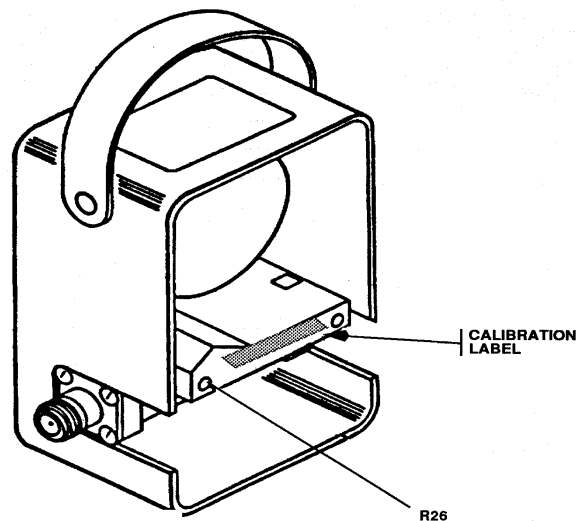

Figure 1. Calibration label and adjustment location.
- (3) Connect other end of BNC T connector to frequency counter.
- (4) Adjust audio analyzer frequency controls for a frequency counter indication 1000 Hz.
- (5) Disconnect frequency counter from BNC T connector.
- (6) Connect end of BNC T connector to multimeter (ac mode).
- (7) Set factor switch to 1.
- (8) Adjust audio analyzer amplitude output controls for a digital multimeter indication between 0.1591 V rms,  $\pm 0.00005$  V rms.
- (9) Locate access hole to R26 (fig. 1).
- (10) Pierce paper strip covering R26 (fig. 1) adjustment.
- (11) Adjust R26 (fig. 1) until meter pointer rests on 1 on the uppermost scale.
- (12) Replace back cover and four screws removed in **b** (l) above.
- (13) Remove calibration element from TI.